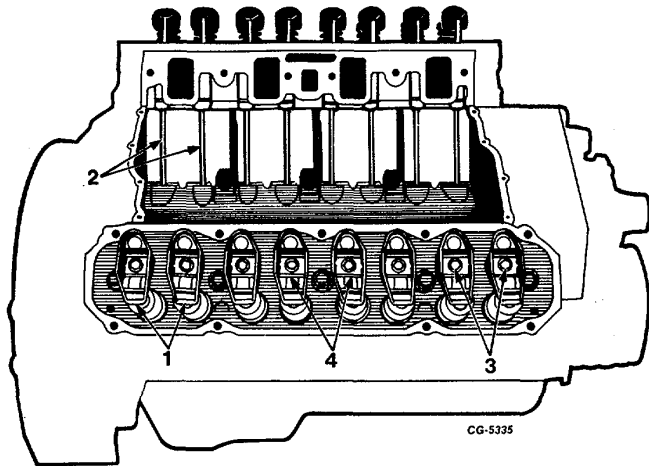

Fig. 42 Rocker Arm Removal
44. Remove flange head bolts securing rocker arms to cylinder heads, Figure 42. Remove rocker arms and pivots from cylinder heads.